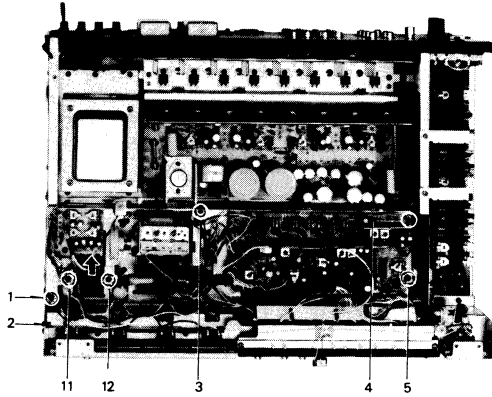

Fig. 1
nos. 1 ~ 10 as figure 1 and 2.
7. Loosen power switch mounting screws, nos. 11, 12 and slide power switch as figure 1.